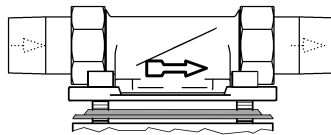

Fig. 1: Built-in rotary flange
- / Direction of flow (see fig. 1),